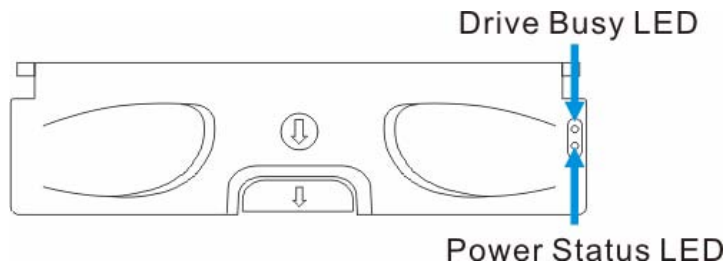
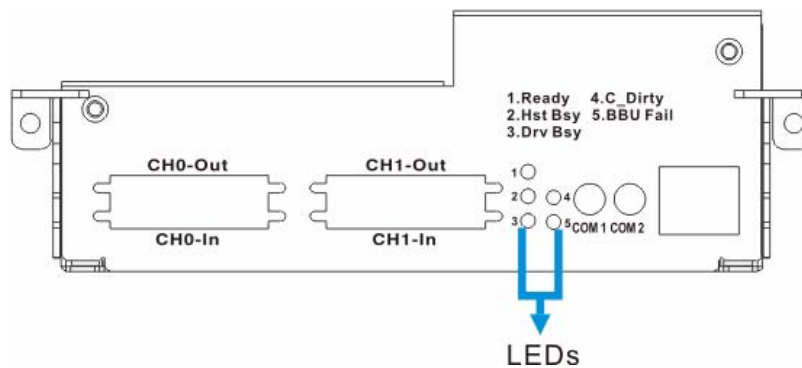

Fig. 4.2 Drive Tray LEDs
Fig. 4.3 LEDs on the Controller Module
Two (2) LED indicators are located on the right side of each drive tray, See *Figure 4.2*. Refer to *Figure 4.3* for the LED definitions. When notified by a drive failure message, you should check the drive tray indicators to find the correct location of the failed drive. Replacing the wrong drive can fatally fail a logical array.
The rear panel of the controller module is shown in *Figure 4.3*. The LEDs on the controller's faceplate that can be accessed from the rear of the enclosure are numbered from 1 to 5. The definitions are shown in *Table 4.4*.